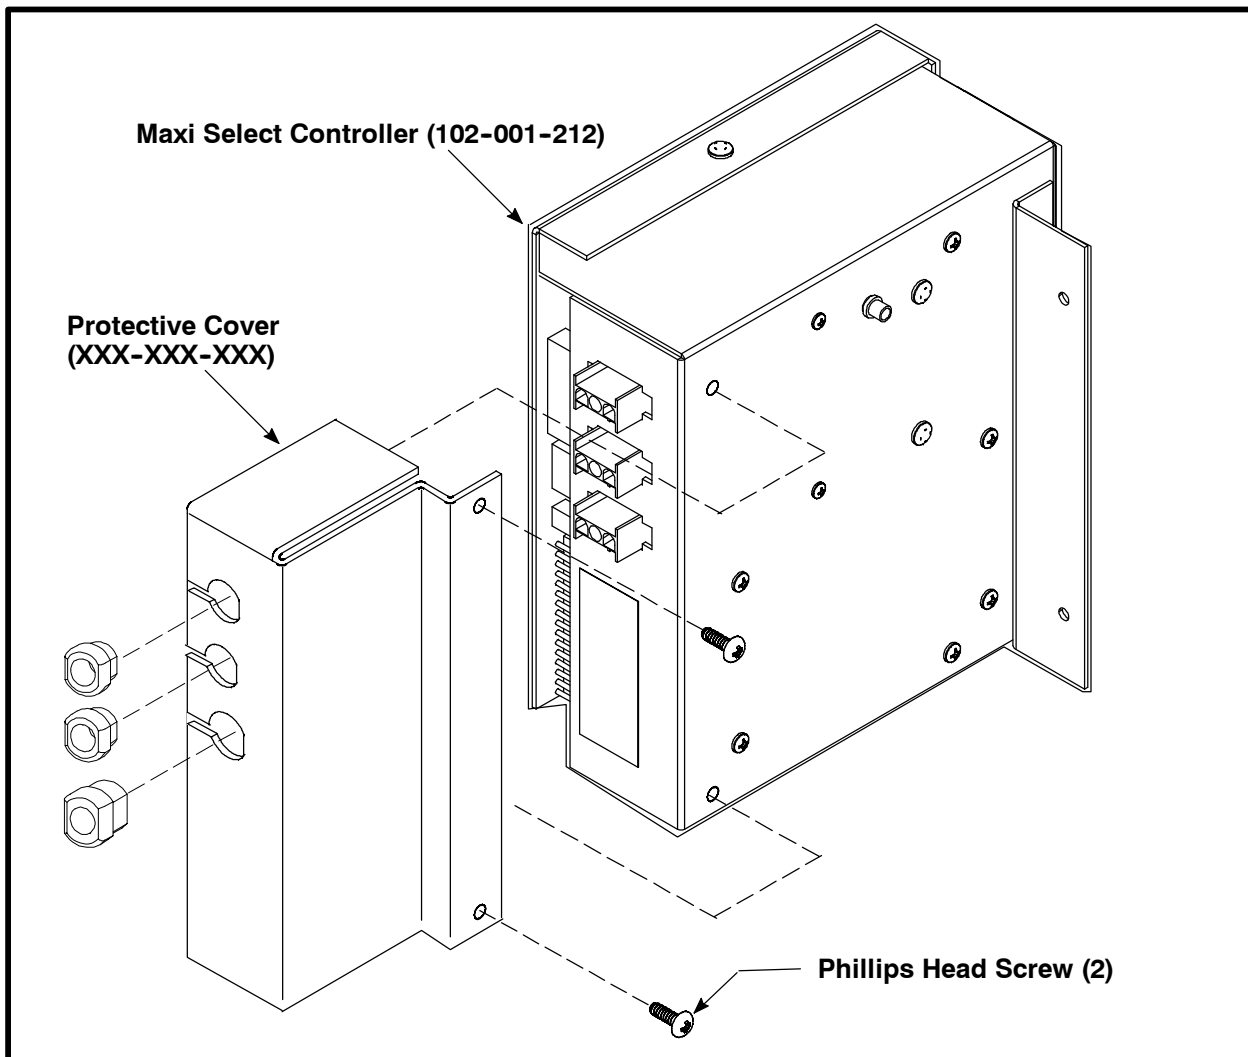

Figure 4-17. Installing Protective Cover on Maxi Select Controller (102-001-212)
Refer to Figure 4-17 and proceed as follows to install the Protective. Cover
4. Remove the two No. 1 Phillips head screws from the side of controller opposite to where the Ribbon Cable Assemblies attach. See Figure 4-17.